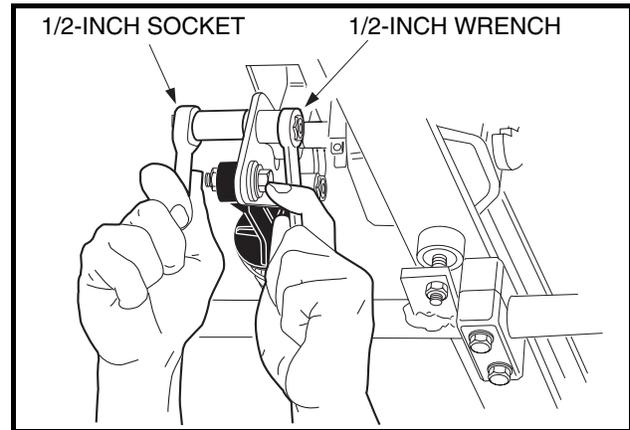
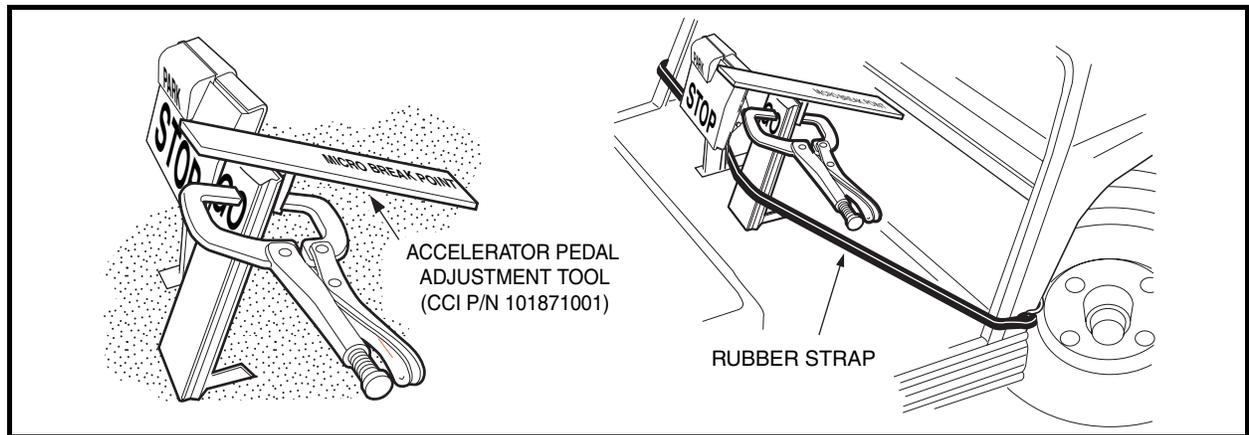

Figure 5-17 Accelerator Pedal Height Adjustment
Figure 5-18 Accelerator Pedal Height Adjustment
- 4.1. Loosen the nut and bolt (Figure 5-17, Page 5-14) securing the accelerator pedal to the pivot plate. Clamp the accelerator pedal adjustment tool (CCI P/N 101871001) to the accelerator pedal, with the end marked *accelerator pedal height* closest to the floorboard. Press the accelerator pedal until the end of the tool rests against the floorboard; pedal height should be 5-5/8 inches (14.3 cm). Use a rubber strap to hold pedal in position against the floorboard and then tighten nut to 26 ft-lb (35.3 N·m) (Figure 5-18, Page 5-14).